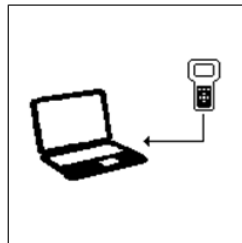

Fig.92
2. Press USB key on the keypad will display (Fig.92) as shown below: